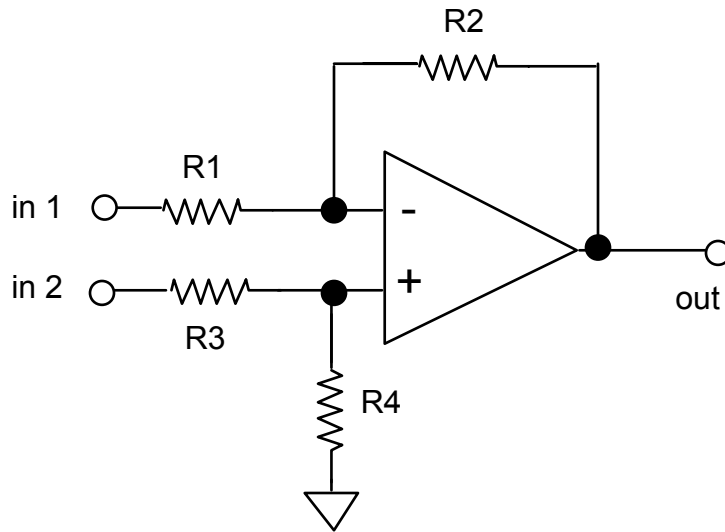

Figure 7-6 Differential Amplifier
- ☛ The circuit in Figure 7-6 is a differential amplifier.
- Connect the circuit in Figure 7-6, using resistor values $R_1 = R_2 = R_3 = R_4 = 10 \text{ k}$.